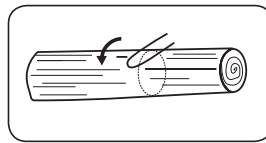

Fig. 12A
1. Log supported along entire length: Cut from top (over buck), being careful to avoid cutting into the ground (Fig. 12A).